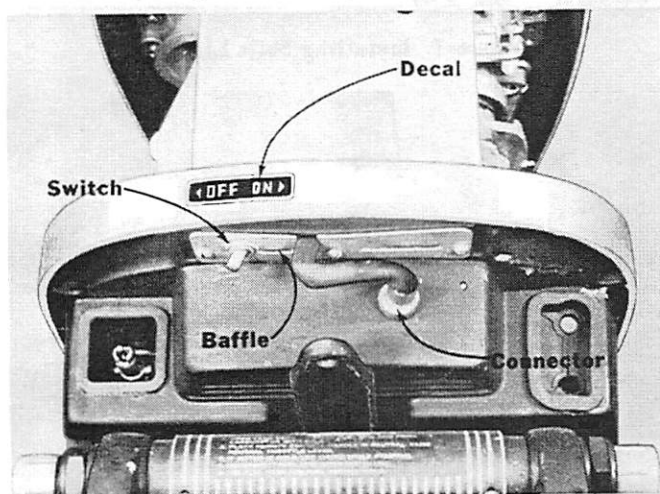

Figure 1. Magneto Shorting Switch Installed
2. Fasten new baffle (with shorting switch) in position with 3 screws removed previously in Step No. 1. (Figure 1)
3. Fasten connector, which is located on end of shorting switch lead wire, to connector which is located in bottom cowl. (Figure 1)
4. Remove paper backing from "OFF" - "ON" decal and place decal in position on protector rim directly above shorting switch. (Figure 1)